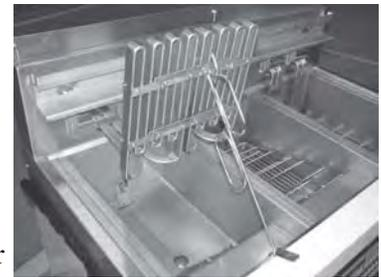

Figure 1
6. **Electric units only.** Use the lift tool and lift the hinged element to clean the bottom of the vat. Use care not to damage high limit bulb. Figure 1.